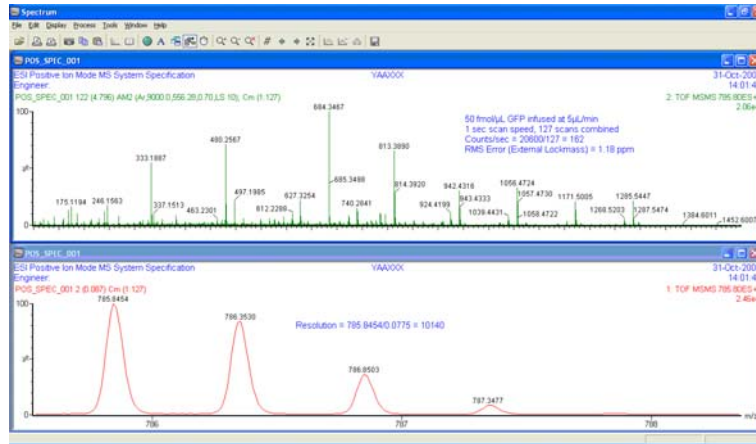

Figure 45 - Annotated spectra for Positive Ion mode MS system specification
**NOTE:** Record the results of all three runs in the performance specification in the appropriate system installation checklist, then print and annotate the data, as in Figure 45.